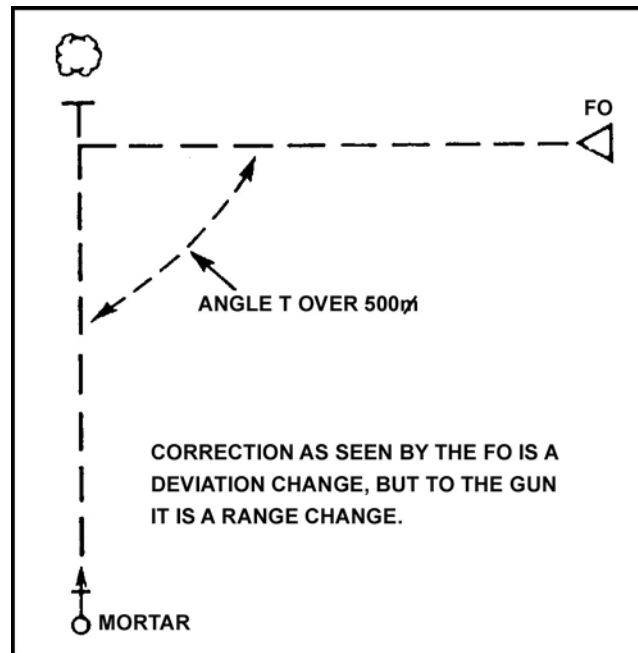

Figure 2. Angle T
2. Angle T becomes significant when it reaches 500 mils. At that point, range changes, with respect to the G-T line, begin to appear as deviation changes to the FO. It is an uncorrectable ballistic characteristic of mortars that range probable error (the statistical uncertainty as to exactly where along the G-T line the round will impact) is fairly large. A round could easily land 25 meters over or short of a target when firing the same data. Deviation probable error is small by comparison. When angle T is over 500 mils, range probable errors begin to appear as deviations to the FO. He is, therefore, informed by the fire direction center (FDC) when angle T is between 500 and 2700 mils (Figure 2).